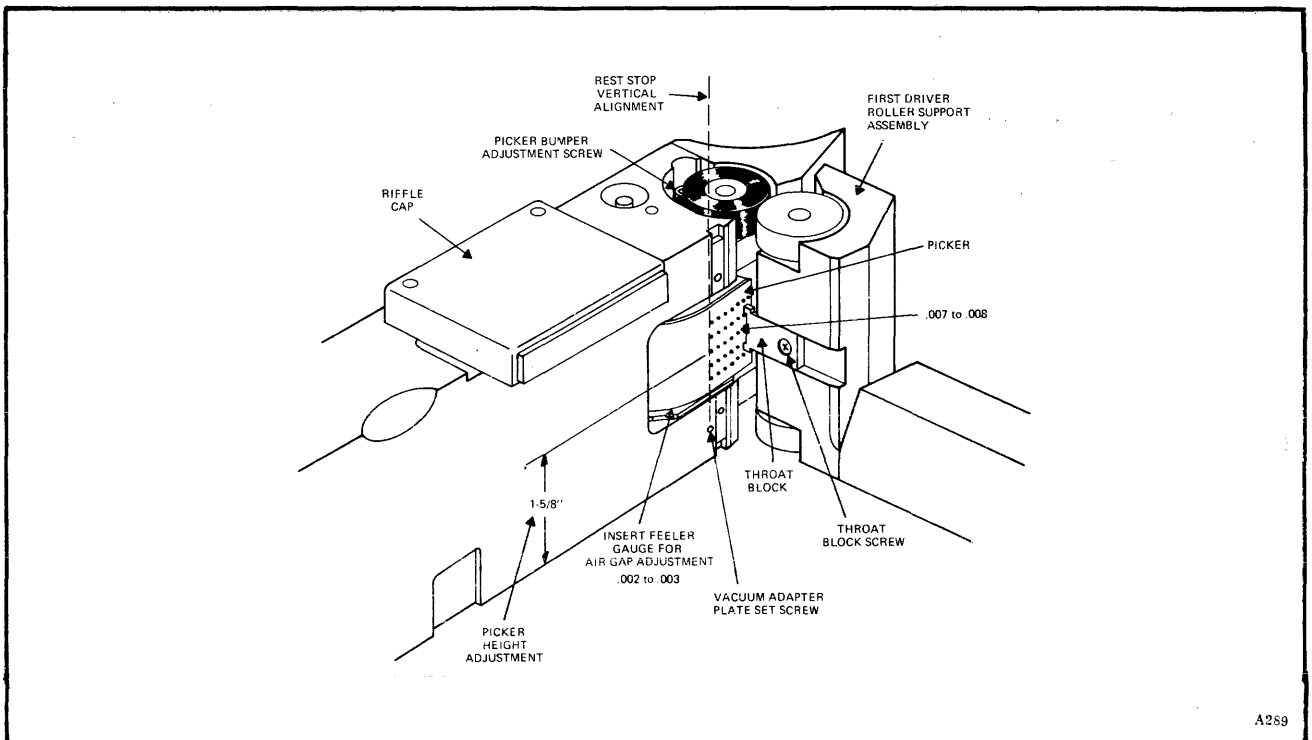

Figure 6-11. Picker Sector Adjustment, Rear View
- a. Check pick sector height adjustment. Measure the distance from top of mainframe to center of middle row of holes in pick sector. This should be exactly 1-5/8", Figure 6-11.
- f. Loosen vacuum adapter plate set screw, Figure 6-11.
- m. Loosen screw holding throat block, Figure 6-11.